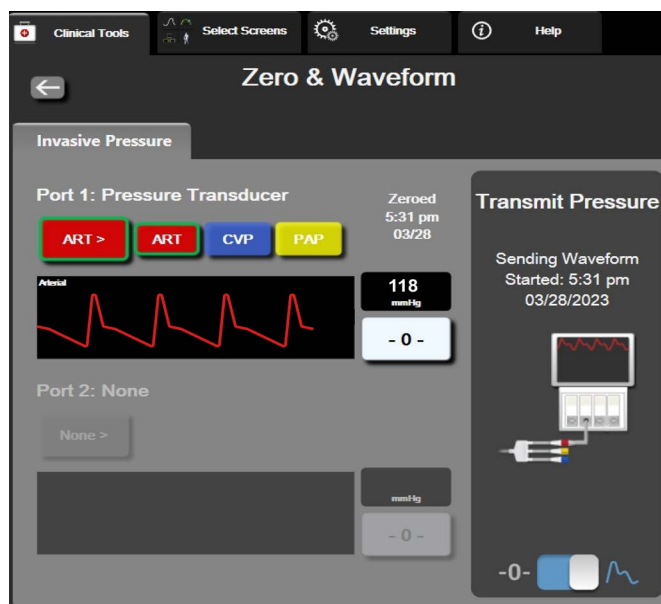

Figure 10-2 Zero & Waveform screen – Zero sensor and Pressure-Out
- 6 Toggle to the **Transmit Waveform** icon  to begin pressure signal output to the patient monitor. A **"Sending Waveform Started:"** message with the timestamp is displayed when the live waveform is being transmitted to the connected patient monitor. See figure 10-2 on page 195.